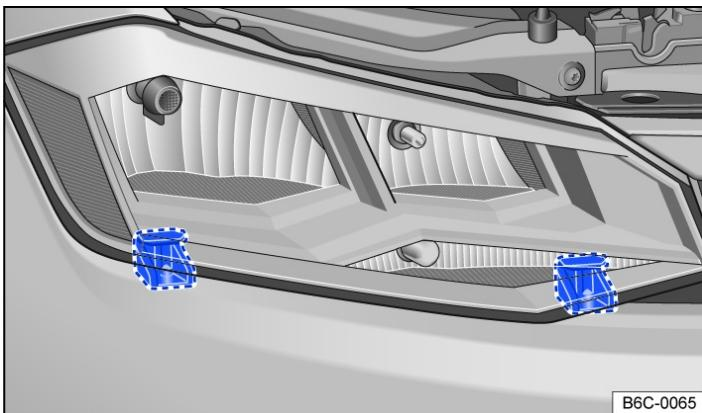

Fig. 2 Guides for installing the right headlight.
- Push the headlight into the vehicle until it reaches the middle upper stop → Fig. 1 2. Make sure that the headlight engages properly into the lower guides → Fig. 2, → ①.